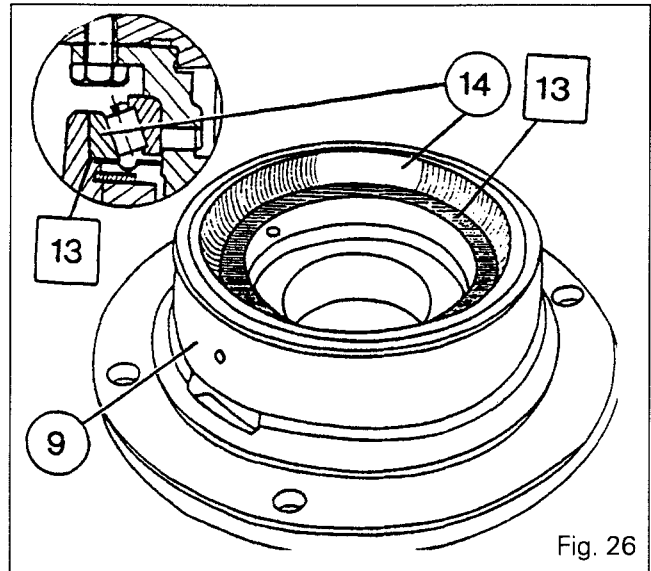

Fig. 26
**Note: Ensure that the deflector is mounted the right way round (Fig. 26).**